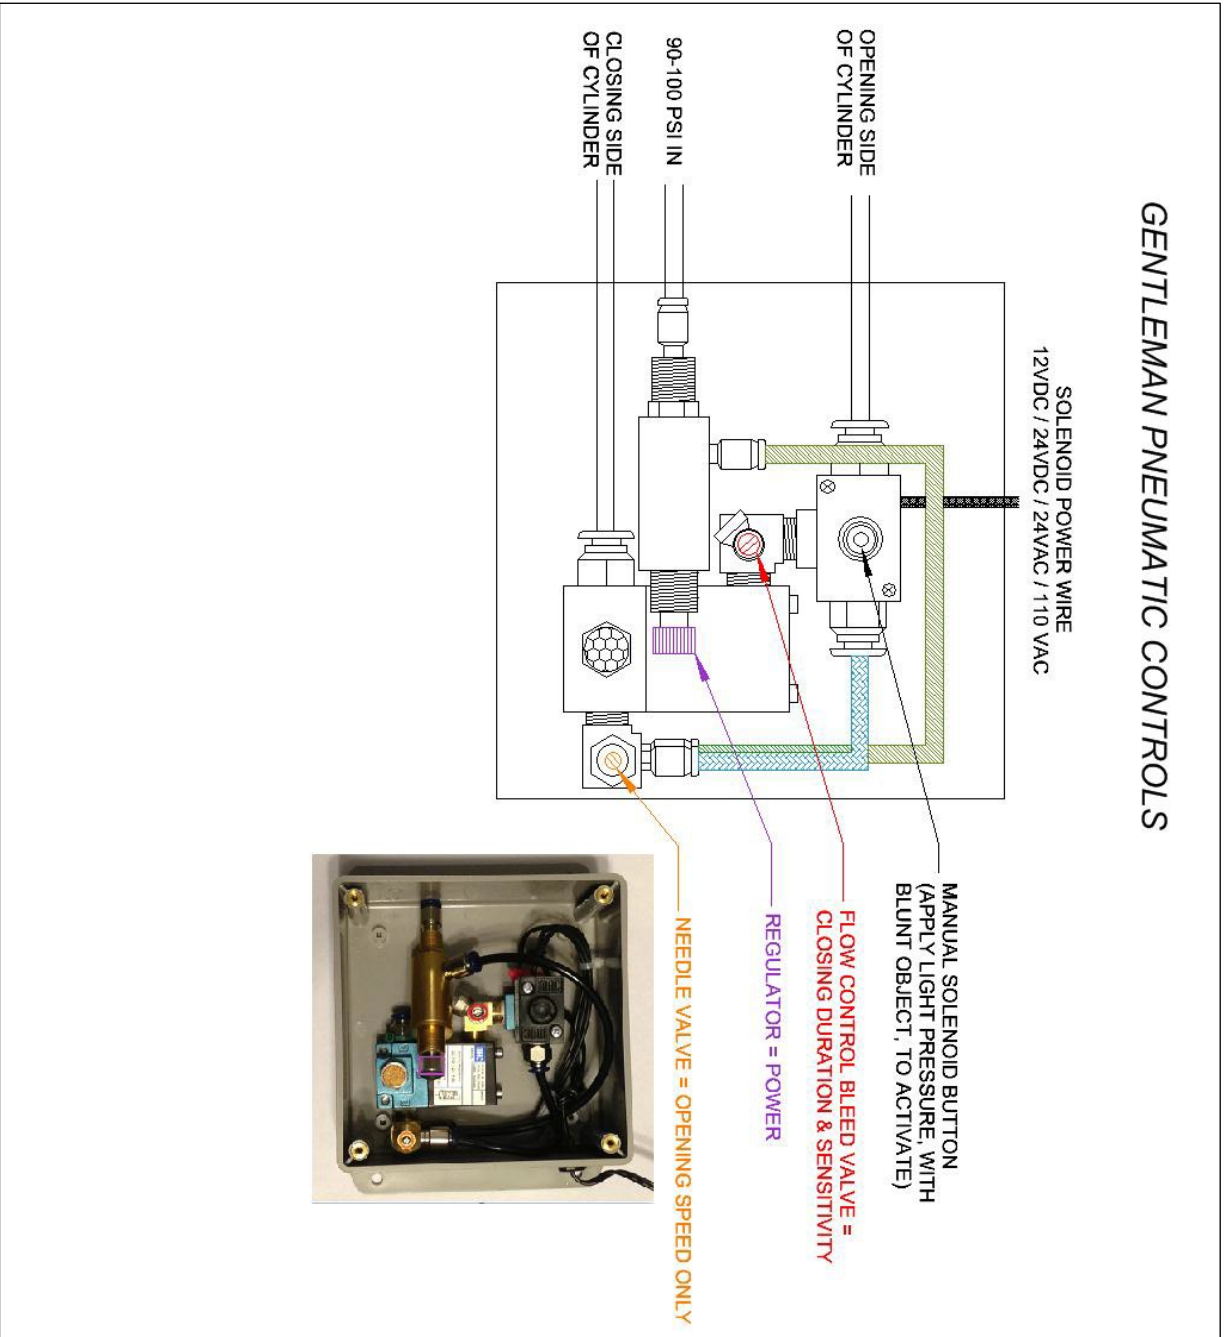

Figure 3
1. Make sure remote control or switching system you are using is operational and the **Regulator (Figure 3)** has 90-100 PSI air supply coming into it. (Figure 2)
Open vent on **Flow Control Bleed Valve (Figure 3)** (turn CCW) and repeat steps 2 and 5 waiting about 5 seconds between steps. Repeat this procedure until door will not fully close (i.e. stops) before reaching fully closed position.
6. Open or close valve marked **Needle Valve (Figure 3)** to increase (CCW) or decrease (CW) opening speed only. Again, adjust to the 4 to 7 second range.